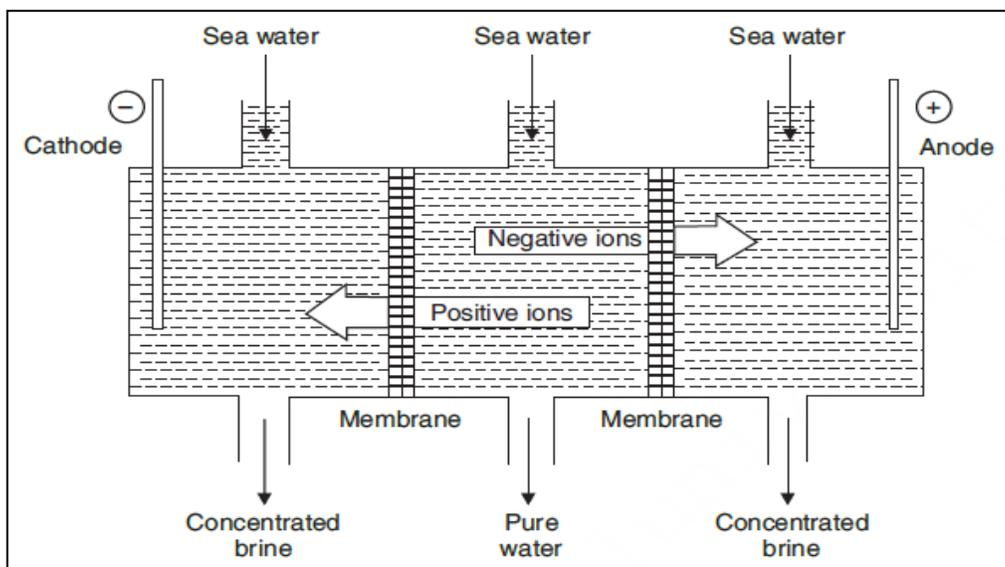

Fig. 4 Line diagram of electro-dialysis
- ✓ As a result, the concentration of brine decreases in the central compartment; while it increases two side compartments and the pure water is removed from the central compartment from time to time; while concentrated (side compartments) brine is replaced by fresh brine (illustrated as in Fig.4).